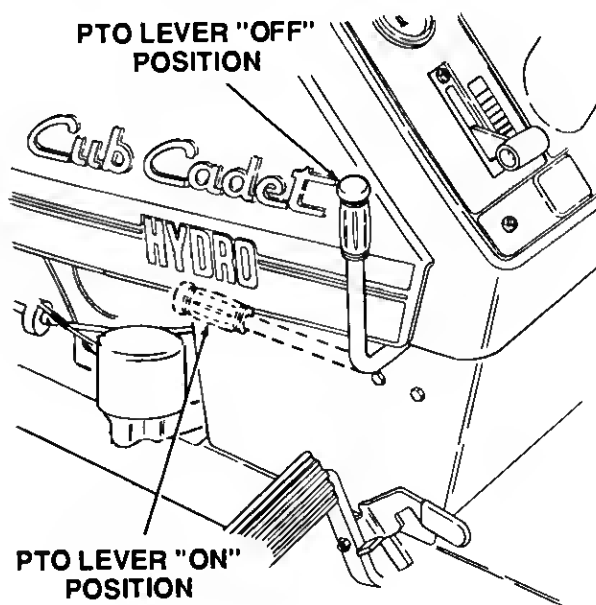

Figure 13
2. Push the PTO engagement lever forward to the "ON" position. (Refer to Figure 13.)
4. PTO operated equipment cannot be operated while the tractor is in reverse. Before shifting into reverse, the PTO engagement lever must be returned to the "OFF" position (refer to Figure 13), or the tractor engine will automatically shut off.